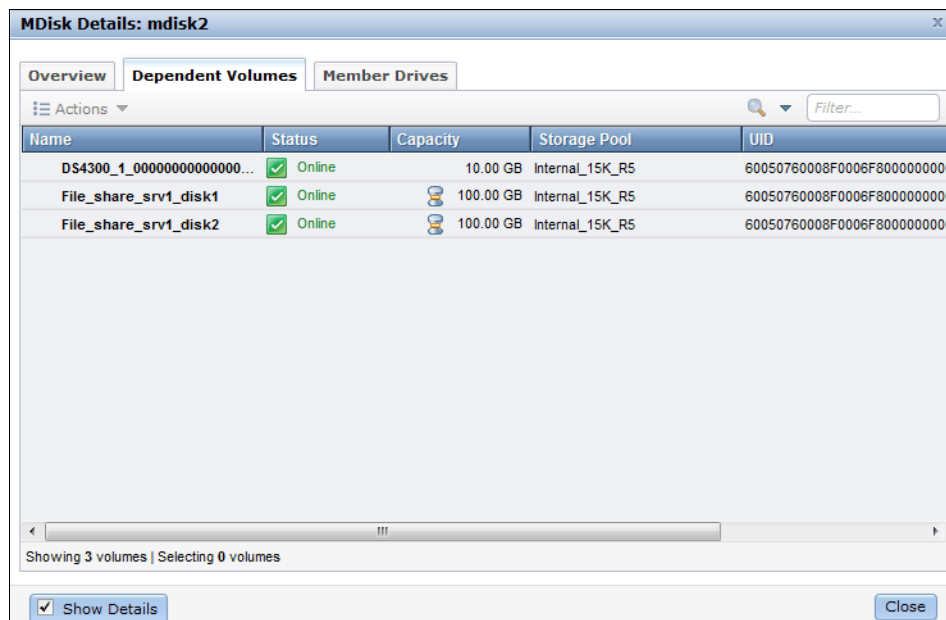

Figure 8-59 Dependent volumes
- ▶ The *Dependent Volumes* tab lists all volumes using extents on this MDisk as shown in Figure 8-59.